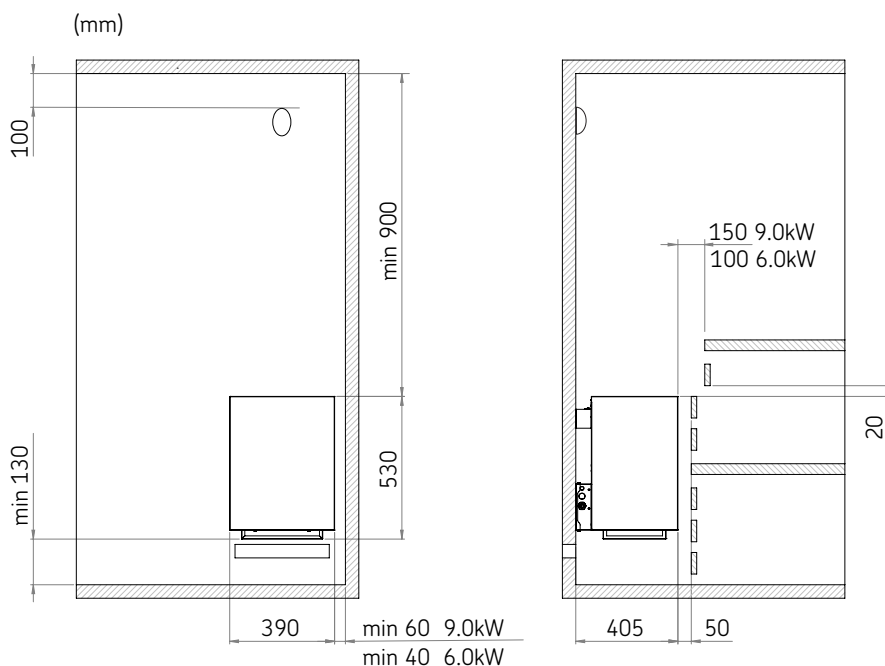

Figure 1. Safety distances
- Minimum protective distances to combustible material are shown in figure (Figure 1. Safety distances).
- If a guardrail is installed around the sauna heater, the safety distances given in (Figure 1. Safety distances) or in the installation instructions for the guardrail must be observed.